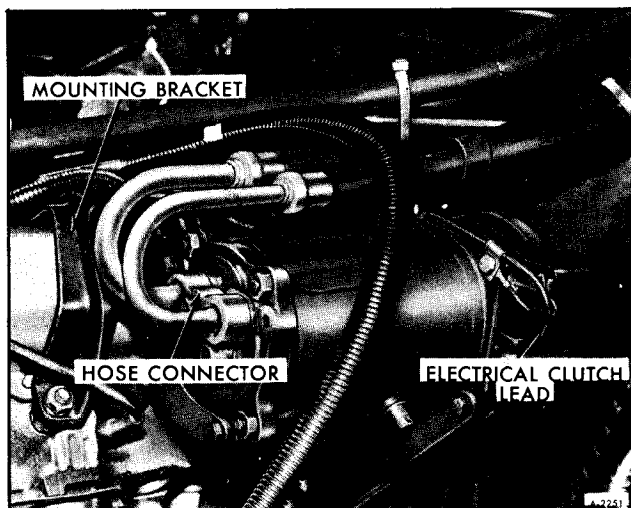

Figure 28-Compressor Installation
3. Remove connector attaching bolt and hose connector (figure 28). Seal connector outlets.
4. Disconnect electrical lead to clutch actuating coil (figure 28).